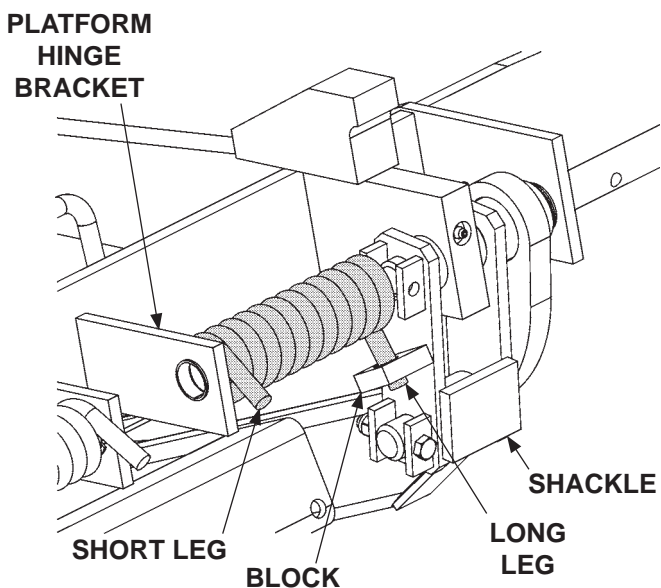

FIG. 21-2
5. Install the torsion spring as shown in (FIG. 21-2). Make sure the long leg of the spring is inserted through the hole in the block on the shackle (FIG. 21-2). Make sure the short end of the spring is positioned as shown in FIG. 21-2.